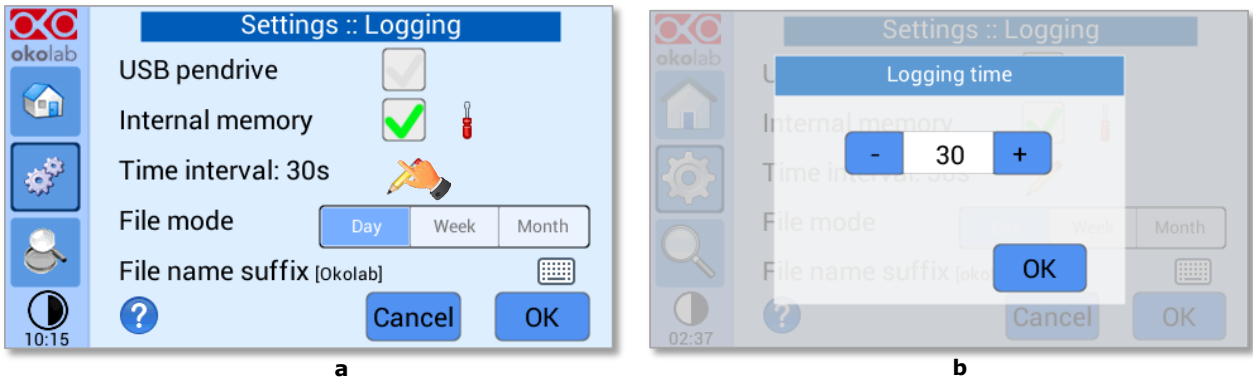
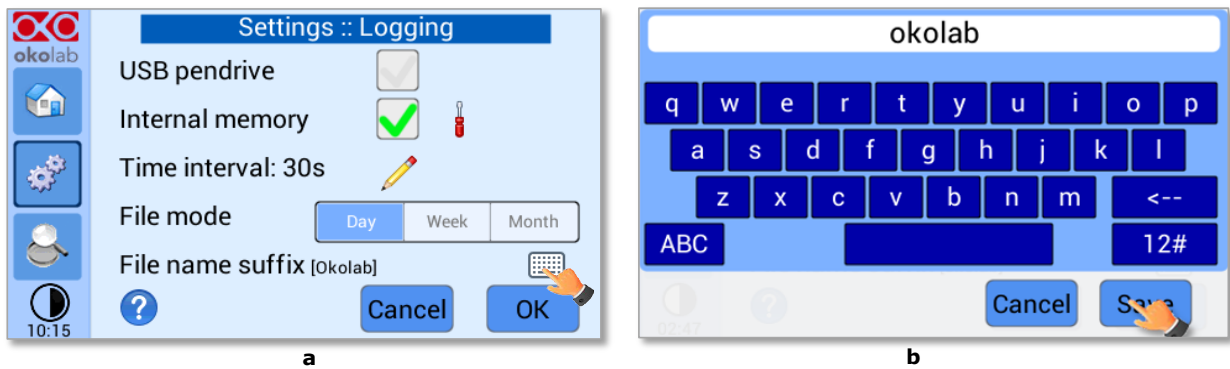
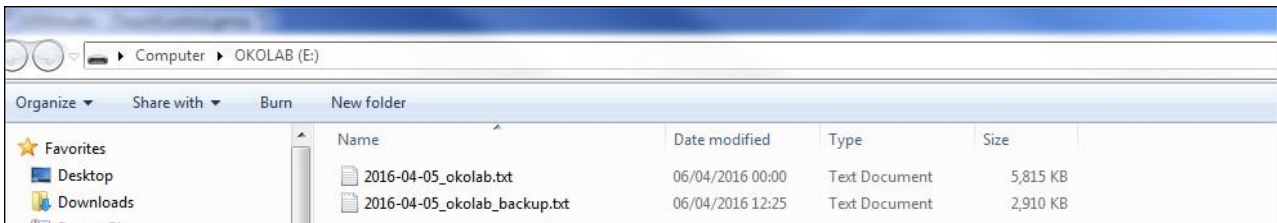

Figure 38. How to set the logging time (a – b).
Figure 39. Data Logging. How to define the suffix for the downloaded files (a – b).
Figure 40. Downloaded files on the pen drive.
3. Press on the icon  to insert the *Time Interval* i.e. the frequency with which you want to record a data point, as shown in Figure 38. In this example a data point is logged every 30 seconds, you can change *Time Interval* in the range 1-60 seconds.
- Choose how you want to organize the data when downloaded, by pressing on Day, Week or Month, see Figure 38 a.
- Write the file name suffix to be reported in the downloaded files by pressing on the keyboard icon , see Figure 39 a.
- Press Save, see Figure 39 b.
Tip ► With the selections as in Figure 38 and in Figure 39, the data will be downloaded on the USB drive as shown in Figure 40.